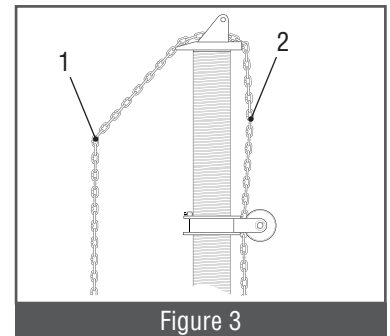

Figure 3
- Pull the chain out at a 45 degree angle (1), disengage the chain from the tower head lock (2) and adjust to the desired length (figure 3).